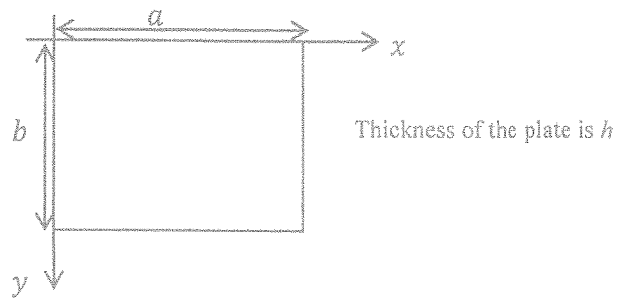

Figure Q2
- b) A thin rectangular plate of side dimensions 'a', 'b' and thickness 'h' is shown in Figure Q2. The plate is simply supported along all four edges. It is subjected to a vertical downward load of intensity,